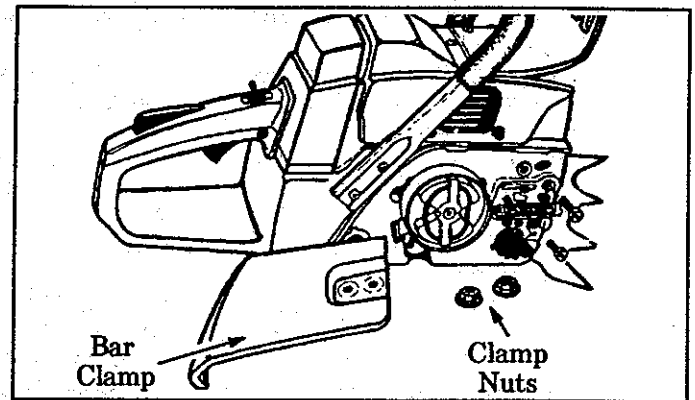

Figure 6
- Remove the bar clamp nuts, bar clamp, and plastic spacer. Figure 6. Discard plastic spacer.
- Position the spur over the two holes in the shroud. Figure 6. Make sure the bottom screw hole tab on the spur is positioned between the shroud and the isolator bracket (where the spacer was removed).